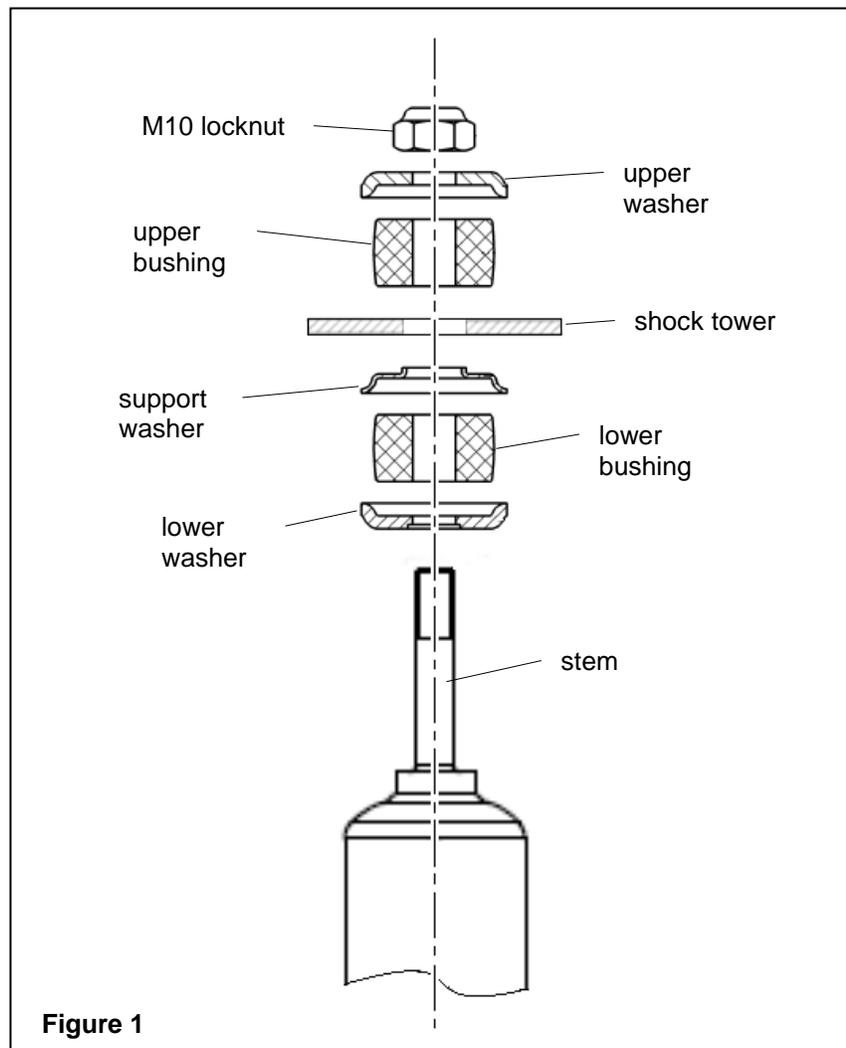

Figure 1
3. Install the new supplied lower washer, lower bushing, and support washer onto the shock stem. Refer to Figure 1.
5. Install the new supplied upper bushing, upper washer, and locknut onto the shock stem. Refer to Figure 1.